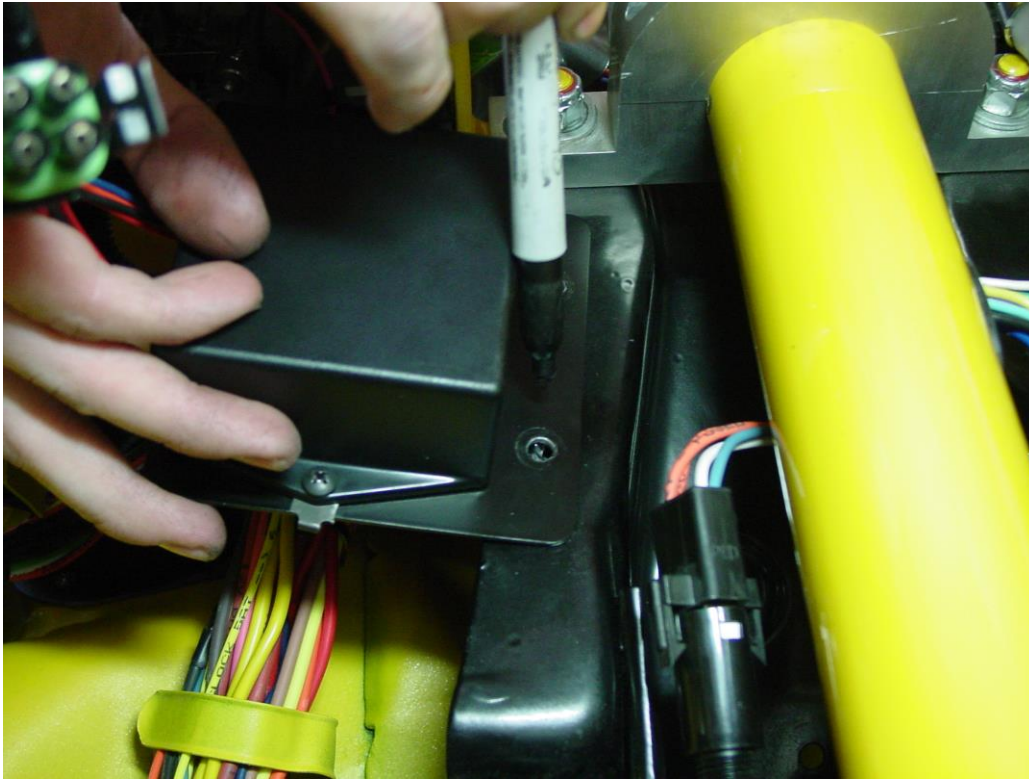

Figure 2 - Locating the Bolt Holes
1. Locate the brake pedal support bracket under the driver's side dash spanning from the brake pedal assembly to the steering column support attachment. Mock up the module and mounting plate. Locate the bolt holes on the support bracket with a marker or scribe (Figure 2 on the next page).